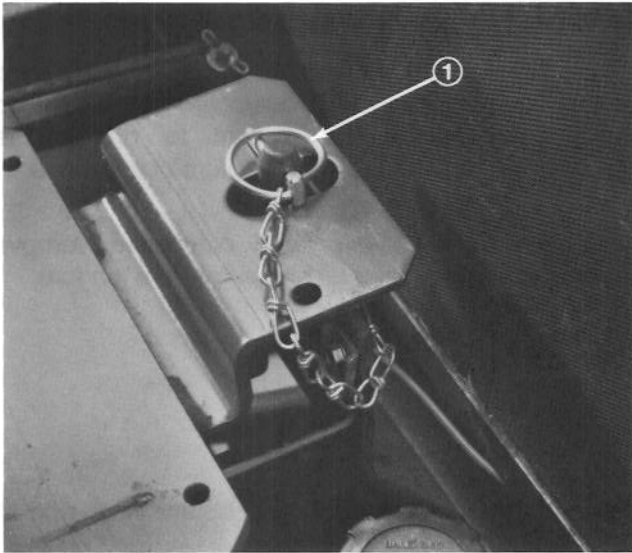

Figure 14
6. Disengage seat support rod and pivot downward. Pivot seat down and push lynch pin through seat latch stud. Flip wire end of pin over latch stud (Fig. 14).